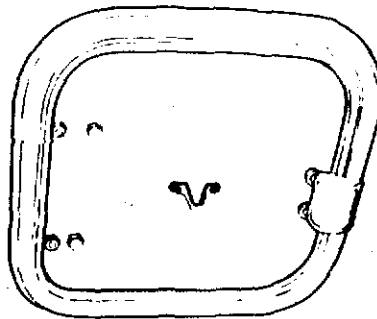

Figure 1-18 Roof Hatch
**102. Roof hatch (Fig. 1-18)**